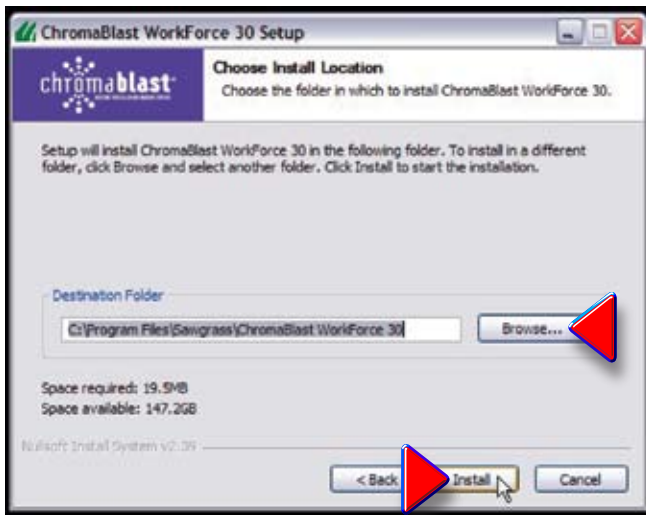

Figure 4
9. If you have not previously registered the **ChromaBlast Driver**, you will be prompted to do so. Registering is the only way to take full advantage of the advanced features in **ChromaBlast Driver**. If you choose to register later, select “**Register Later**” and click “**Next**” to proceed with the installation. (Fig. 4) You will have five days to use the program before registration will be required for continued usage of the software. After five days, if you attempt to print using the **ChromaBlast Driver Software**, you will be prompted to register. (Fig. 5)